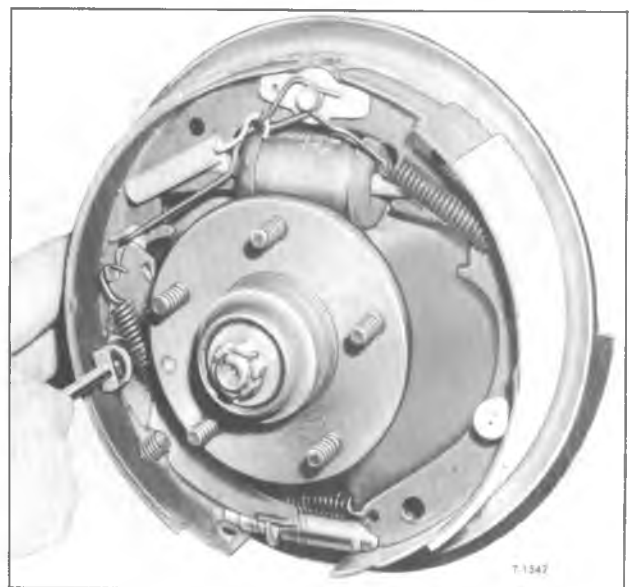

Figure 31—Removing Hold Down Springs and Pins
7. Remove hold-down pins and springs. Refer to figure 31.